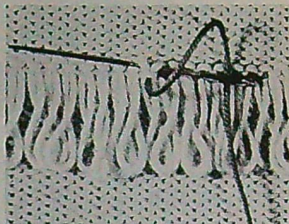

Fig. 52
9) Using the tapestry needle and bind off. (See Fig.52 and Fig.53)